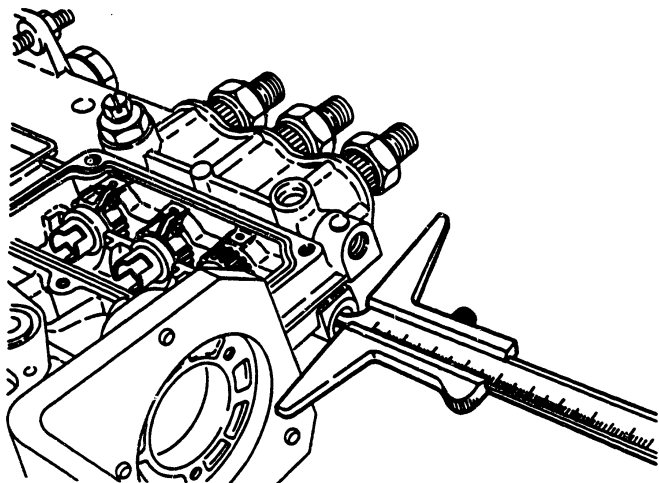
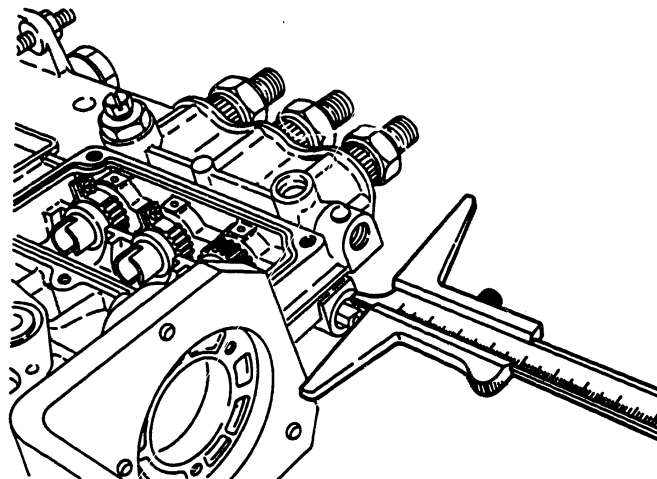

Fig. 76 Measuring control rack position at stop side
Fig. 77 Measuring control rack position at full side
- 6) Measure the distance between the end of the control rack and the pump housing end face with the control rack fully inserted (refer to Fig. 76). Then measure this distance when the control rack is fully protruding as shown in Fig. 77.